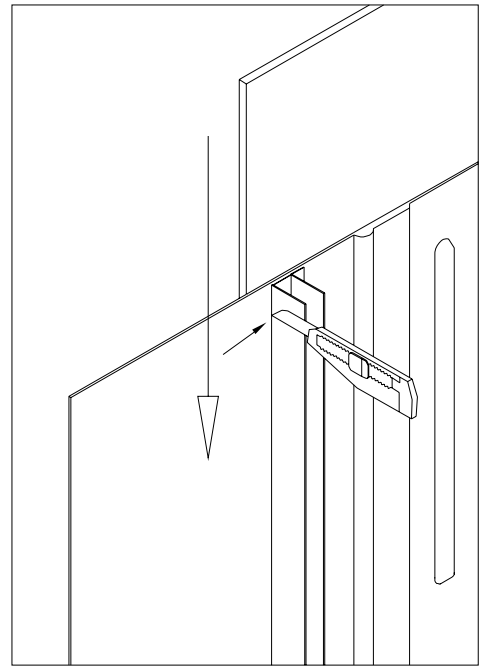

Fig 12
10. Using knife trim the excess of the acrylic panels (Fig 12 & 13).